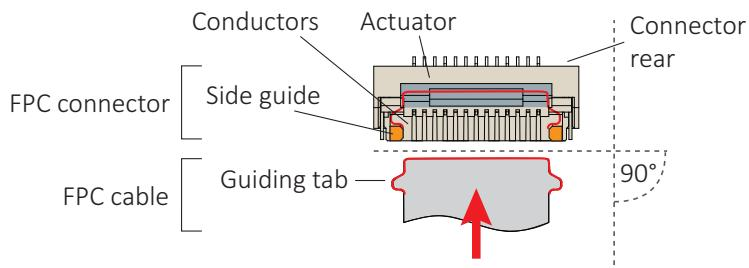

Figure 67: FPC cable and FPC connector
2. **Ensuring proper cable direction between host and camera**, take the FPC cable with conductors facing the FPC connector conductors (see Figure 67).
At a horizontal angle of 90 degrees to the connector's rear (see Figure 67) and at a vertical angle of 12 degrees to the PCB (see Figure), slowly insert the FPC cable into the actuator...
4. ...until cable guiding tabs are caught between connector rear and side guides (see Figure 67). Pull the cable slightly to ensure guiding tabs are properly engaged.